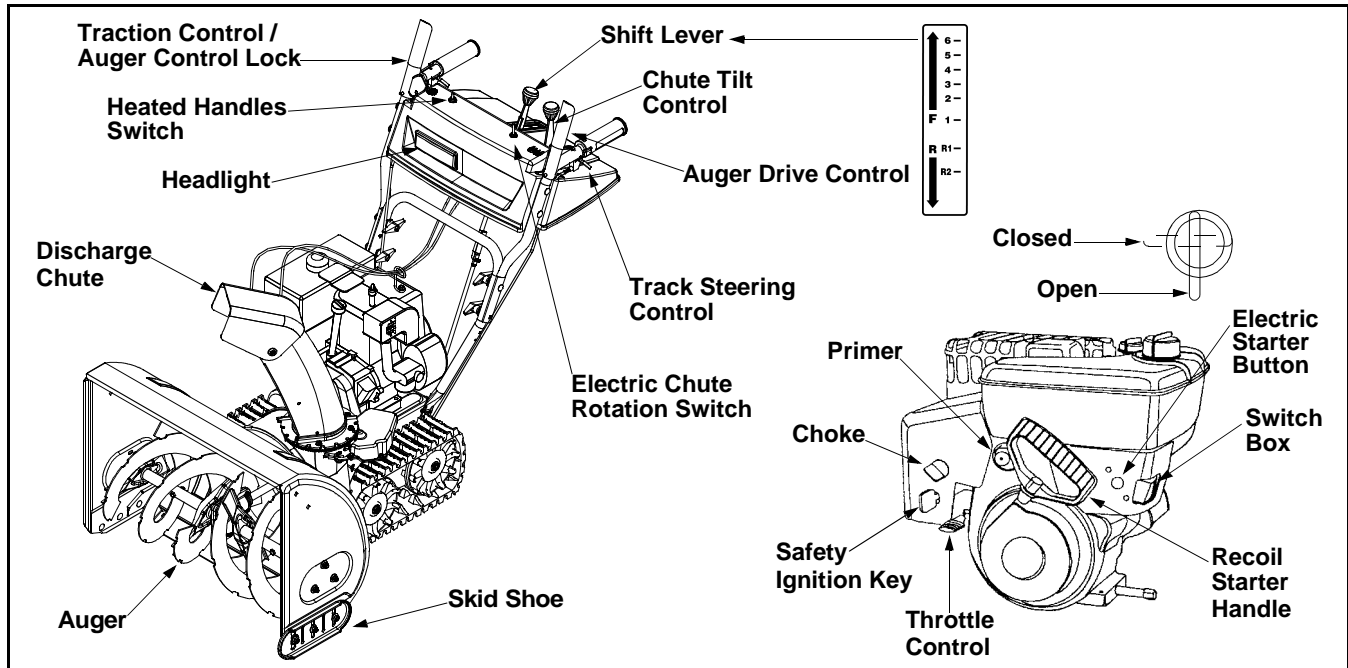

Figure 7
- Move the shift lever into sixth (6) position.
- a. With the traction control (refer to Figure 7) released, squeeze in triggers and gently push the snow thrower forward, then pull it back. Disregarding the overall weight of the snow thrower, the machine should otherwise move freely.
The traction control is located on the right handle. Squeeze the traction control to engage the wheel drive. Release to stop. See Figure 7.
The auger drive control is located on the left handle. Squeeze the control grip to engage the augers. Release to stop the snow throwing action. (Traction control must also be released.) See Figure 7.
The distance snow is thrown can be changed by adjusting the angle of the chute assembly. Move the chute tilt control forward to decrease the distance, toward the rear to increase. See Figure 7.
The position of the skid shoe is determined by the condition of the ground from where snow has to be removed. See Figure 7.
The shift lever is located in the center of the handle panel and is used to determine both ground speed and direction of travel. It can be moved into any of eight positions. See Figure 7.
The electric chute-rotation switch is located on the left side of the snow thrower dash panel. See Figure 7. To change the direction in which discharged snow is thrown, proceed as follows:
The left and right track steering controls are located on the underside of the handles and they are used to assist in steering the snow thrower. Squeeze the right track control when turning right, squeeze the left control when turning left. Operate your snow thrower in open areas until you become familiar with these controls. See Figure 7.
The throttle control is located on the engine. It regulates the speed of the engine and will shut off the engine when pushed down completely. See Figure 7.
The safety ignition key must be fully inserted in the switch before the unit will start. Remove the ignition key when the snow thrower is not in use. See Figure 7.
The fuel shut-off valve, located under the fuel tank, controls fuel flow from the tank. Always make certain it is in the Open (vertical) position before attempting to start the engine. See Figure 7.
This switch is located on the right side of the snow thrower dash panel. To activate the heated handles, toggle the switch to the right to generate heat within the handle grips. Toggle the switch to the left to the OFF position after using the snow thrower. See Figure 7.
- Make certain the fuel cutoff valve is in the OPEN (vertical position). See Figure 7.
- Move throttle control up to FAST position. Insert ignition key into slot. See Figure 7. Be certain it snaps into place. **Do not turn key.**